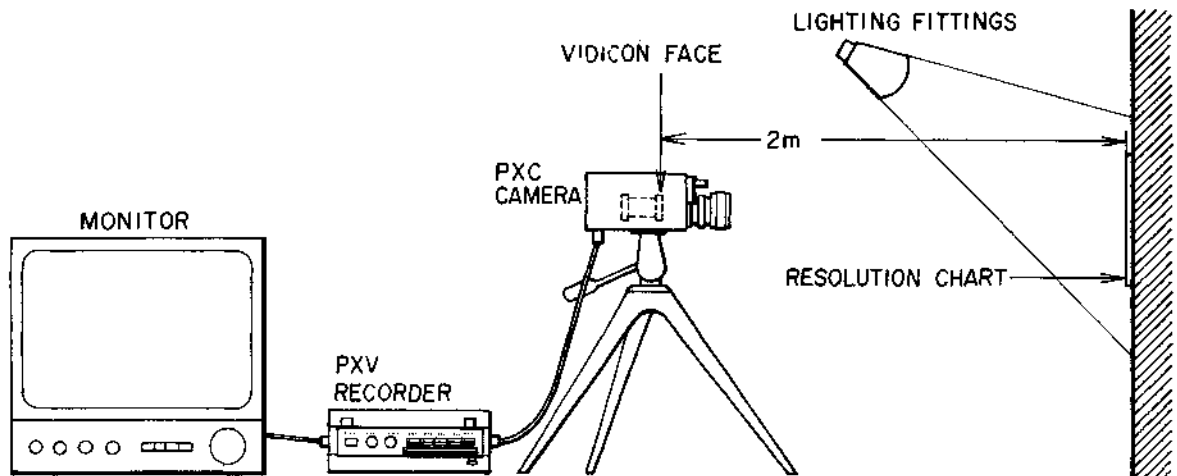
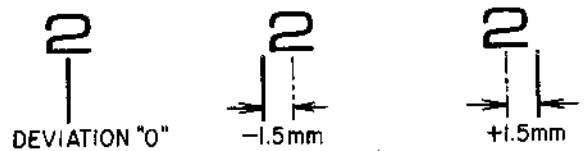

Fig. 2-1 Preparation for camera adjustment
Fig. 2-5
1. As in Fig. 2-1, hang a resolution chart on a wall and try to obtain a lighting intensity of 1000 Luz.
Under conditions shown in Fig. 2-1, set converter lens distance scale to 2 meter position, and rotate master lens until picture on monitor screen is focused. Deviation of indicator line must be within 1.5 mm from the center of "the numeral 2" as shown in Fig. 2-5.
Under conditions in Fig. 2-1, with 1000 Lux lighting intensity at resolution chart, adjust VR-5 so that the composite video signal amplitude is 1.4 V p-p.
Under conditions in Fig. 2-1, when VR-4 is turned, the focus current is changed and the monitor picture tilts sideways. Adjust this condition by turning centering magnets until center of monitor picture and center of raster is aligned.
- Under conditions shown in Fig. 2-1, set camera so that picture of resolution chart is positioned in the center part of monitor screen.